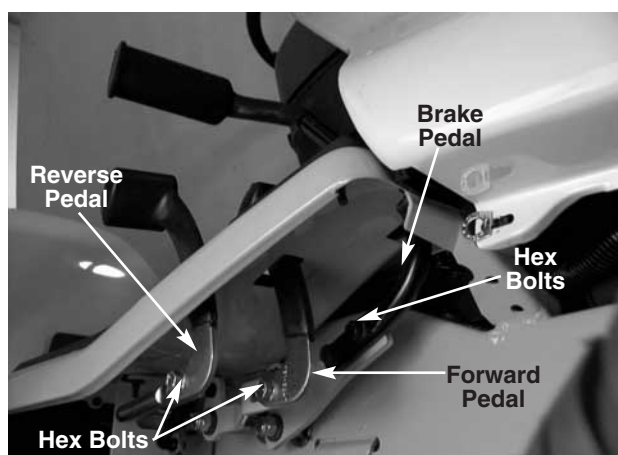

FIGURE 2.
5. Remove all the hex bolts securing the three foot pedals to the right side of the unit using a 9/16 socket. See figure 2.